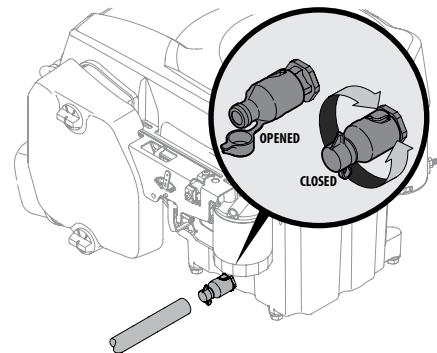

Figure 4-5
- Open the protective cap on the end of the oil drain valve to expose the drain port. See inset of Figure 4-5.
- Slightly push in on the oil drain valve and rotate counter-clockwise to open and allow the flow of oil. See Figure 4-5.